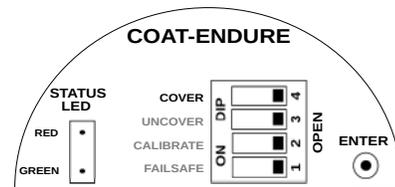

Figure 9: Saving Cover Delay
4. Delay is entered, but not saved. To save and test the Cover Delay, set the COVER switch back to OPEN position as shown in Figure 9. The STATUS LED will come back to its original position.